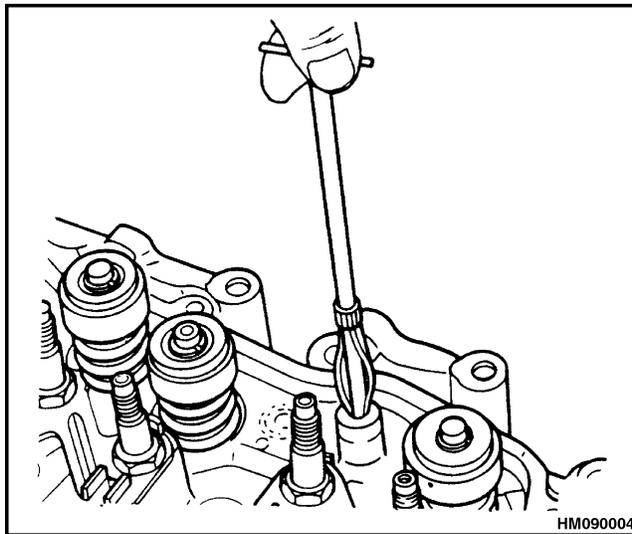

Figure 4. Valve Guide Cleaning Tool
2. Clean the valve guides. Use a tool as shown in the example in Figure 4.